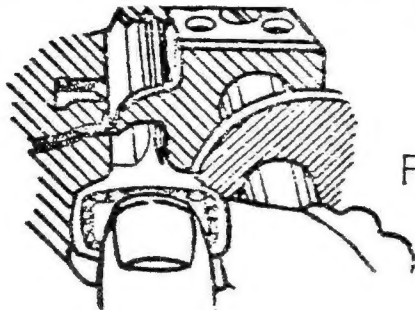

FIG. 9
2. While holding the carriage in forward position, insert a key blank into the carriage (fig. 9). NOTE: